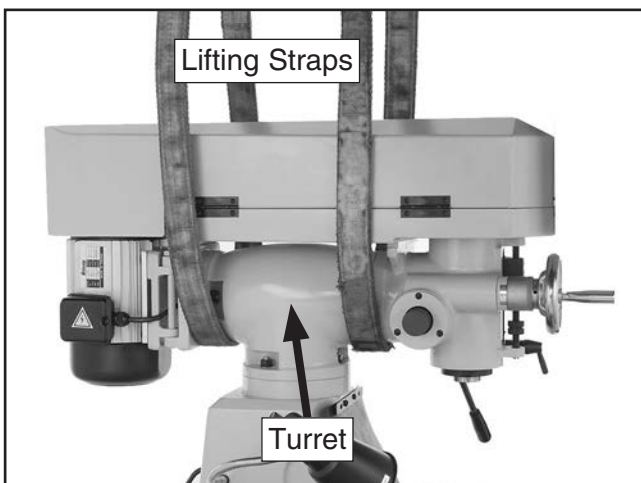

Figure 13. Example of positioning lifting straps.
1. After removing the crate from the shipping pallet, wrap lifting straps around the turret, as shown in **Figure 13**, and securely attach them to your power lifting equipment.